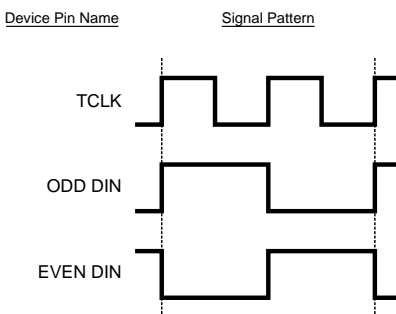
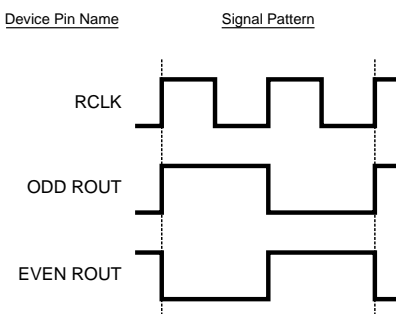
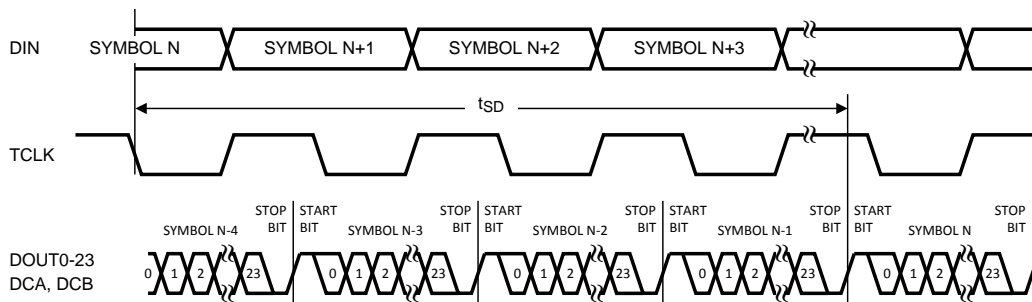

Figure 1. Serializer Input Checker-board Pattern
Figure 2. Deserializer Output Checker-board Pattern
Figure 8. Serializer Delay
(1) Figure 1, Figure 2, Figure 8, Figure 12, and Figure 14, show a falling edge data strobe (TCLK IN/RCLK OUT).